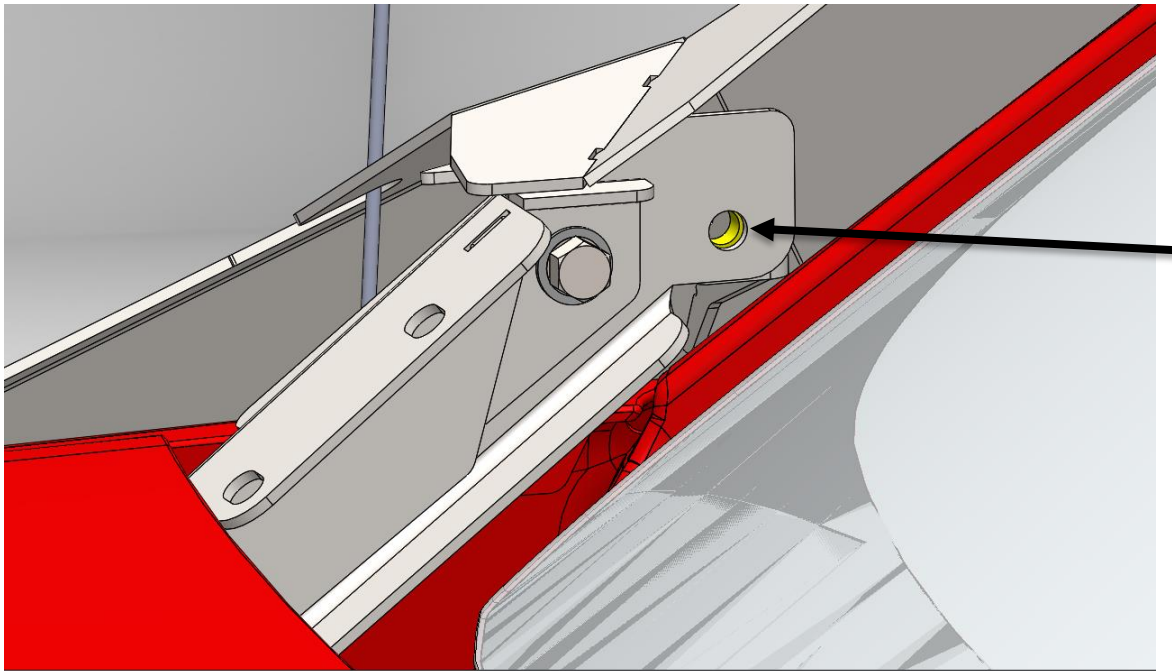

Fig 12
- a. With a friend on the other arm, lift the upper ViCowl assembly up over the hood and behind the radio antenna and slowly lower the arms into position. The arm mounting bracket rest to the outside of the lower hinge and lined up with the rear bolt hole as shown in **Fig 12**.
- b. Loosely install the $\frac{3}{8}$ "-16 x 1.25" hex bolt, zinc lock washer, and zinc flat washer through the lower hinge bracket and into the arm securing the ViCowl from falling lower on the vehicle as indicated in Fig 12 with arrow.